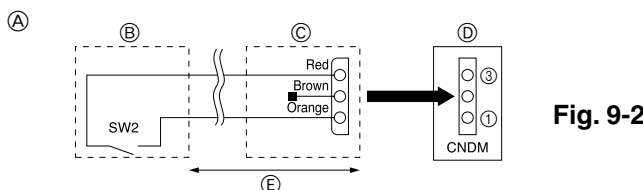

Fig. 9-2
- (A) Circuit diagram example (Demand function) (B) On-site arrangement (C) External input adapter (PAC-SC36NA) (D) Outdoor unit control board (E) Max. 10 m
9.2. Demand function (on-site modification) (Fig. 9-2)